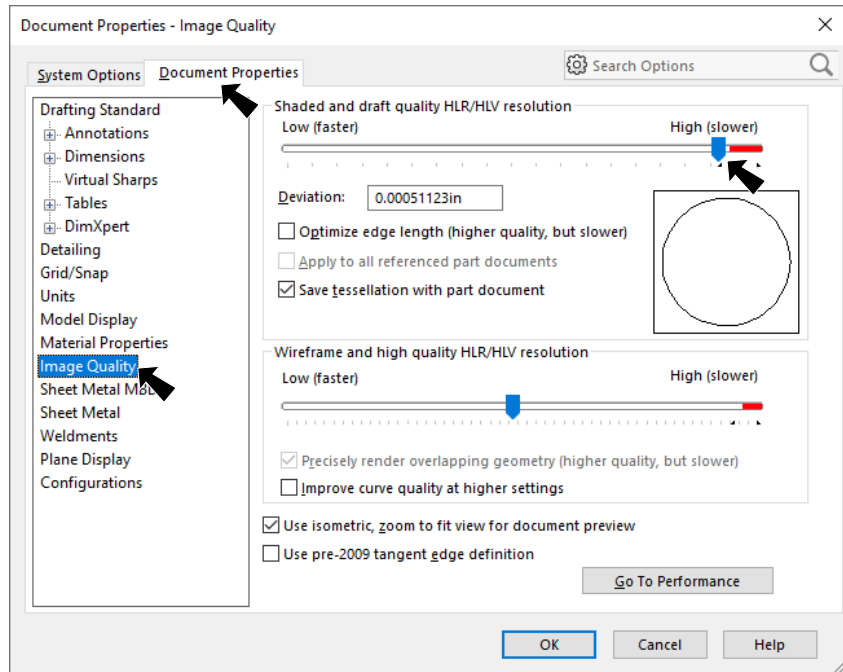

Fig. 16
Step 1. **Tip:** You can crank up the image quality resolution setting resulting in more accurate curves but slower model rebuilding. Click **Options**  on the Standard toolbar. Select **Document Properties** tab and **Image Quality**. Then, drag out slider, Fig. 16.